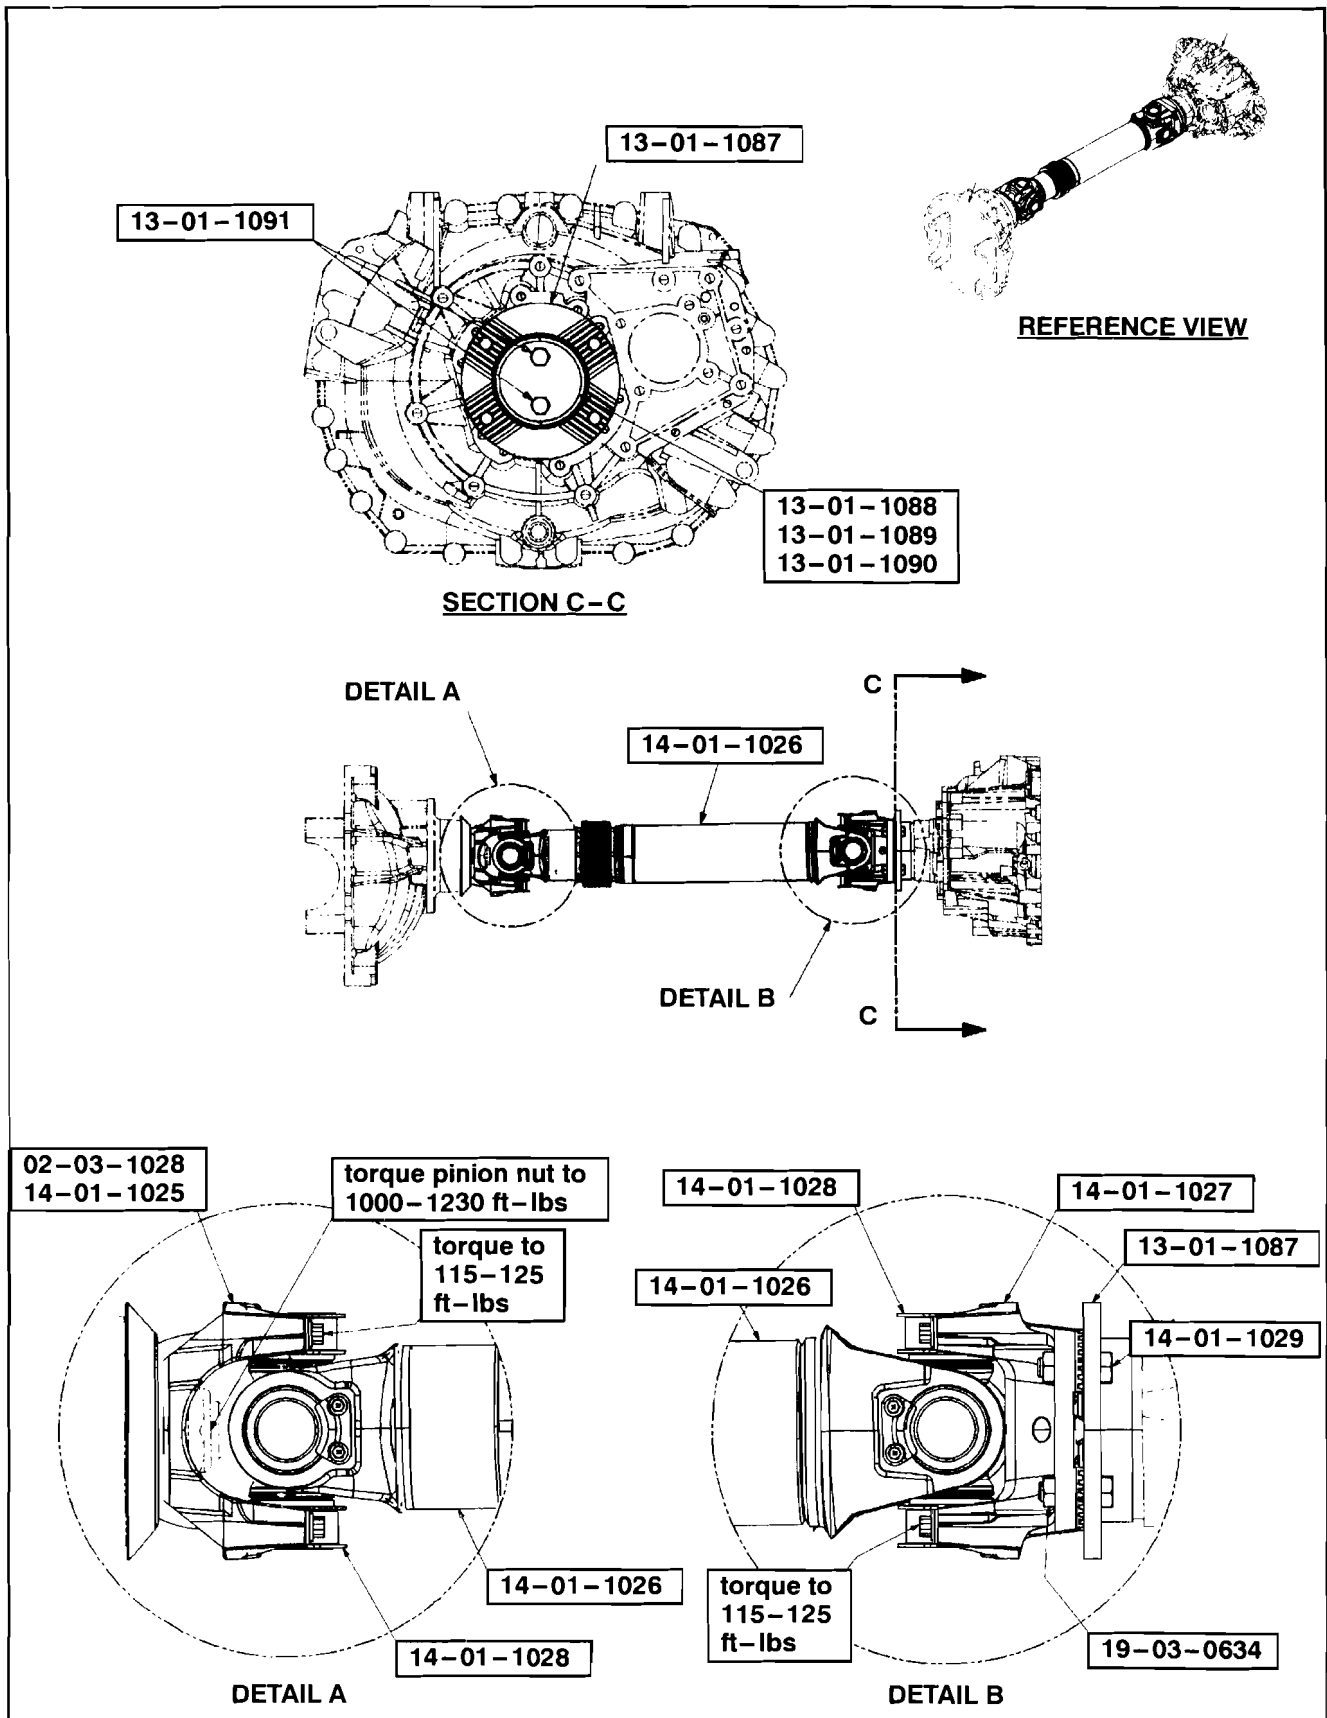

Figure 2.
11. Using tool no. 20-710, install the drive axle pinion seal ( p/n 02-03-1028 ) ( refer to Figure 2 ).